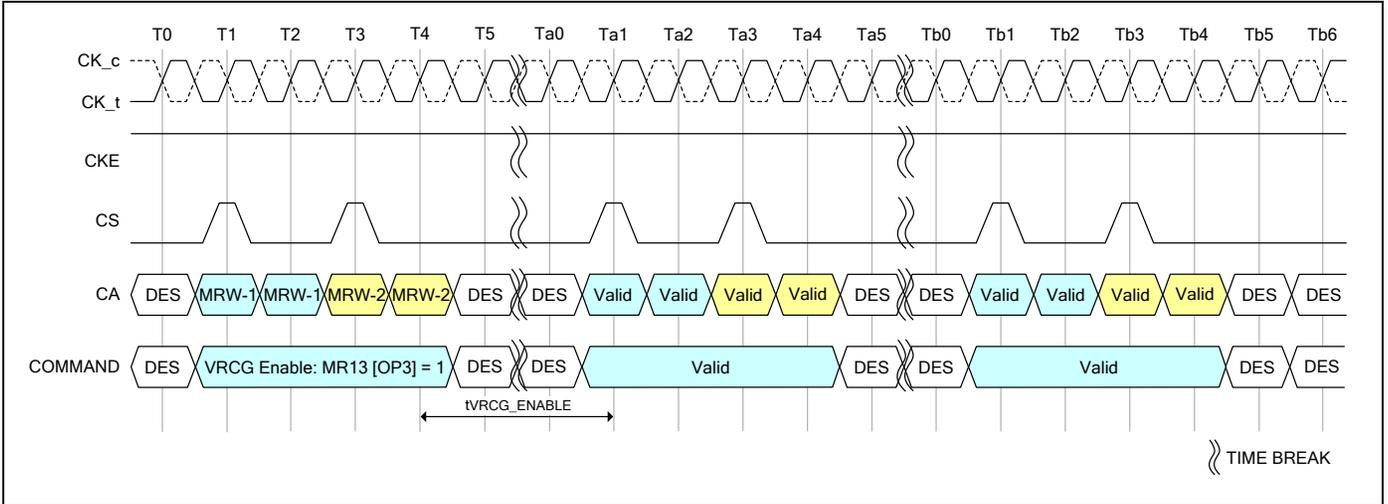

Figure 82 - VRCG Enable timing
LPDDR4 SDRAM VREF current generators (VRCG) incorporate a high current mode to reduce the settling time of the internal VREF(DQ) and VREF(CA) levels during training and when changing frequency set points during operation. The high current mode is enabled by setting MR13[OP3] = 1. Only Deselect commands may be issued until tVRCG_ENABLE is satisfied. tVRCG_ENABLE timing is shown in Figure 82.